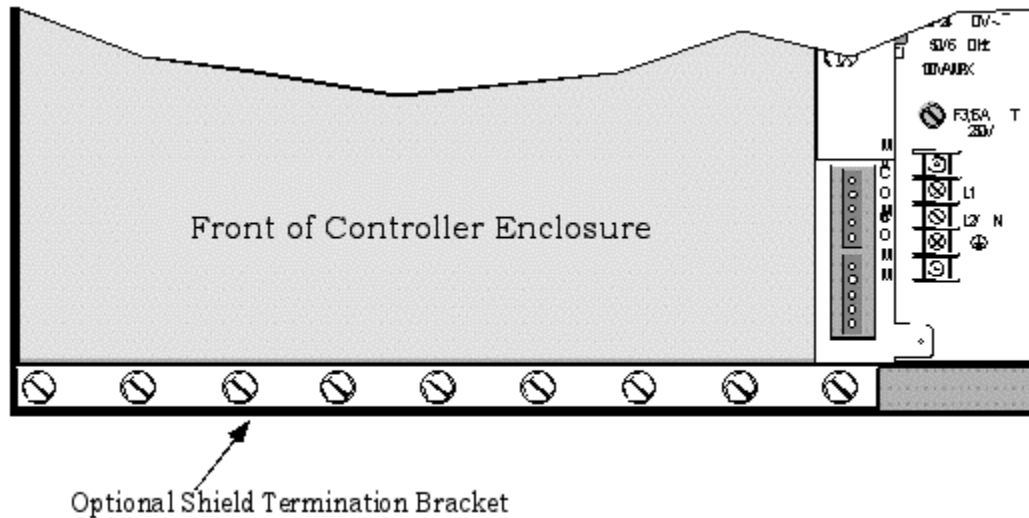

Figure 12 Field wiring shield termination
Shielded twisted pairs are recommended (and required for CE approval) for analog input (AI) and analog output (AO) module field wiring. If a cabinet shield termination point is not available, the optional shield termination bracket may be used, (specify part number 51309814-501). The shield termination point is a bracket attached at the top and/or bottom on the front of the controller enclosure. The wiring shields are attached using the screws of the shield termination. Figure 12 shows the field wiring termination strip attached to the bottom front of the enclosure.